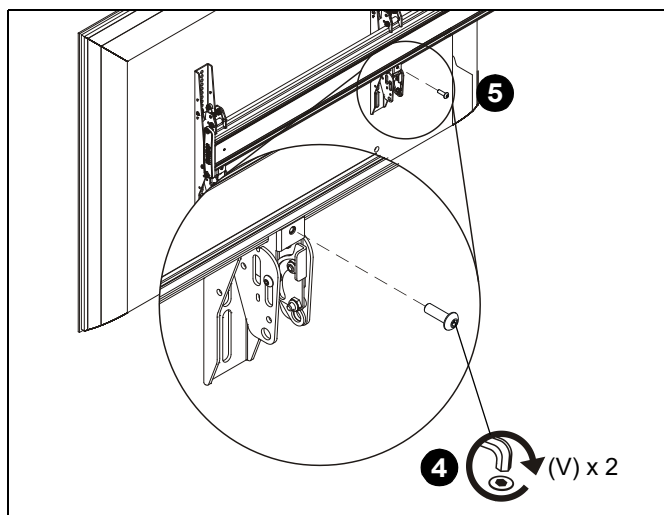

Figure 29
4. Fasten bracket against ceiling mount extrusion using one 10-24 x 5/8" button head cap screw (V). (See Figure 29)